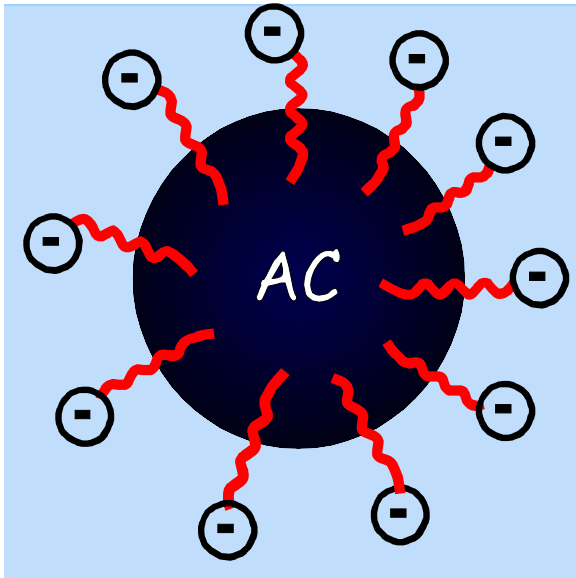

Figure 3.2. Anionic (-) Emulsion
a) Anionic Emulsifiers are comprised of acids reacted with a base such as caustic potash or caustic soda to form a salt. It is this salt that is the active emulsifier. The emulsifier attaches itself to the asphalt particles. The number and density of these emulsifier molecules determine how much negative (-) charge is on the surface of the asphalt particles. Figure 3.2 shows an anionic emulsified asphalt particle.